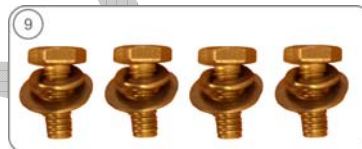

Figure 19: Wall Mounting – Assembling ¼” Screws
4. Assemble the spring washers (7) and flat washers (8) on the ¼” screws (6) as shown in Figure 19.